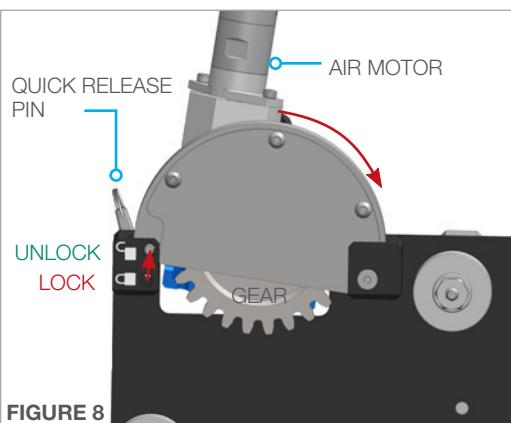

FIGURE 8
- Remove the **Quick Release Pin** from the **locked** position, pull back on the air motor to lift the gear, and insert the **Quick Release Pin** into the **unlocked** position. This will allow the **Vertical Drive Carriage** to slide onto the rail without pneumatic power. Center the carriage on the vertical rail, pull out the **Quick Release Pin**, let the gear drop into place and verify the gear is engaging the slotted rail correctly. Replace the **Quick Release Pin** into the **locked** position. (Figures 8 & 9)